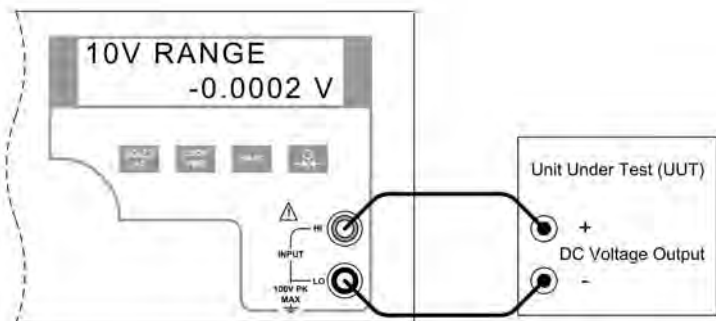

Figure 17 - Isolated DC Voltage Input Connection
- c) Connect the unit under test to the isolated voltage/current input terminals of the CL3001 as shown in figure 17.